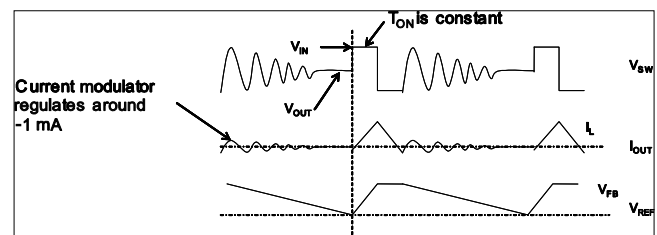

Figure 3—DCM operation
DCM operation is shown in Figure 3. When  $V_{FB}$  is below  $V_{REF}$ , the HS-FET is turned on for a fixed interval, which is determined by the one-shot on timer. See Equation (1). When the HS-FET is turned off, the LS-FET is turned on until the inductor current reaches zero. In DCM operation, the  $V_{FB}$  does not reach  $V_{REF}$  when the inductor current approaches zero. The LS-FET driver turns into tri-state (high Z) when the inductor current reaches zero. A current modulator takes over the control of the LS-FET and limits the inductor current to less than -1 mA. Hence, the output capacitors discharge slowly to GND through the LS-FET. As a result, the efficiency at light-load is improved greatly. The HS-FET is not turned on as frequently during a light-load condition as it is during a heavy-load condition (skip mode).